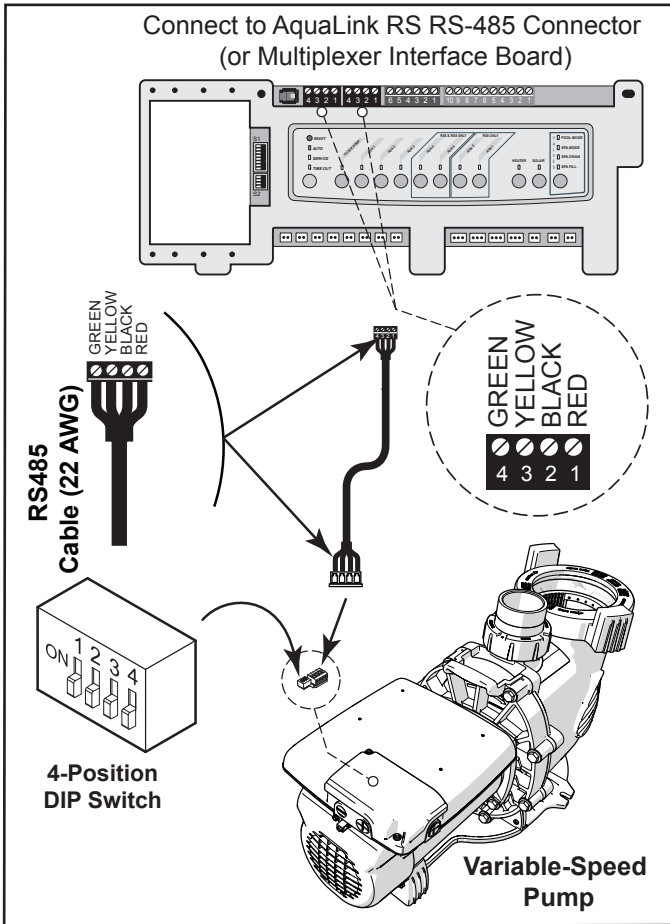

Figure 5. Wiring AquaLink RS, PDA or Z4
2. Dip switches 1 and 2 need to be in the OFF position. See “Figure 5. Wiring AquaLink RS, PDA or Z4”.
5. Connect the new RS-485 cable from the AquaLink through the available compression fitting and route the 4-conductor cable through the motor drive threaded port closest to the connector. See “Figure 5. Wiring AquaLink RS, PDA or Z4”
6. Connect the other end of the cable to an RS-485 connector on the AquaLink RS (or multiplexer interface board), matching wire colors with connector positions See “Figure 5. Wiring AquaLink RS, PDA or Z4”
As shown in Figures 5 and 6 the 4 position dip switch serves two (2) functions: it selects the pump address, and it determines what type of controller will be used with the pump.
The VS PlusHP is equipped with a terminal bar that provides user access to a built-in Auxiliary Load relay contact. This normally-open, dry contact is activated under certain operating conditions and is primarily intended to be used to control external devices that require system water flow for proper functioning, such as heaters, booster pumps, salt water chlorinators, etc. See Figures 5 and 6 for compartment’s location details. An access cover with Phillips-head screw must be removed before proceeding.